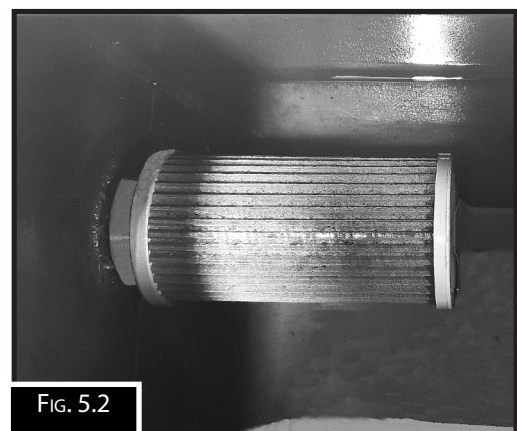

FIG. 5.2
4. Unscrew the filter off the intake tube (Fig.5.2) at the bottom of the tank and replace with a new filter.